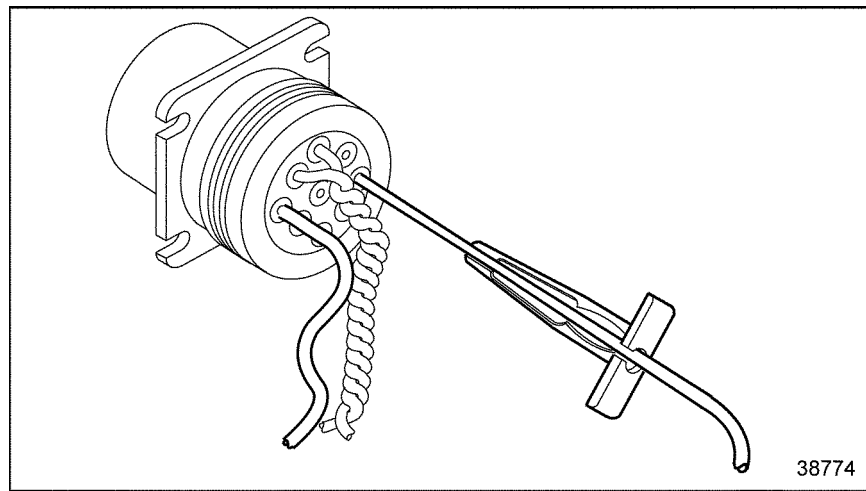

Figure 2-12 Removal Tool Position
1. With the rear insert toward you, snap the appropriate size remover tool over the cable of contact to be removed. See Figure 2-12.